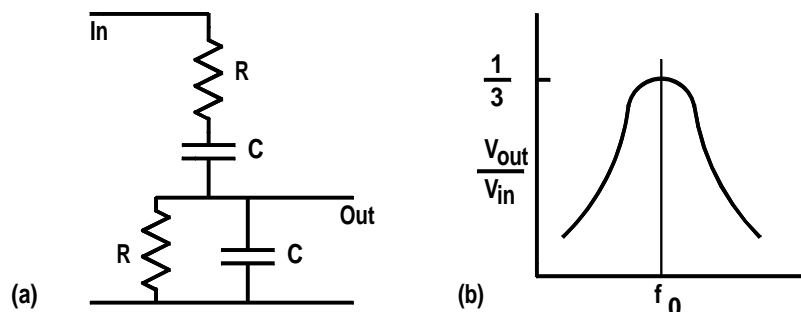

Figure 53.5: Wein bridge and response.
First consider a Wein bridge as shown in Figure 53.5 (a). This is a band pass filter which has a response curve as shown in Figure 53.5 (b). The frequency at the peak of the pass band is $f_0 = \frac{1}{2\pi RC}$.
53.3 Show that the centre of the band pass of the Wein filter in Figure 53.5 (a) is at a frequency $f_0 = \frac{1}{2\pi RC}$. Also show that the attenuation at this frequency is $\frac{1}{3}$ or -9.5 dB . (Review Problem 15.8.)